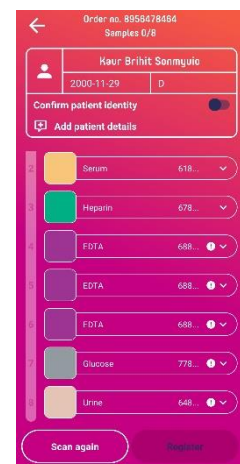

Figure 10. Order information
- b. To request order information (see Figure 10), place one of the following objects in front of the smartphone/tablet such that the camera faces the barcode attached to the object, and hold still for 1-2 seconds.